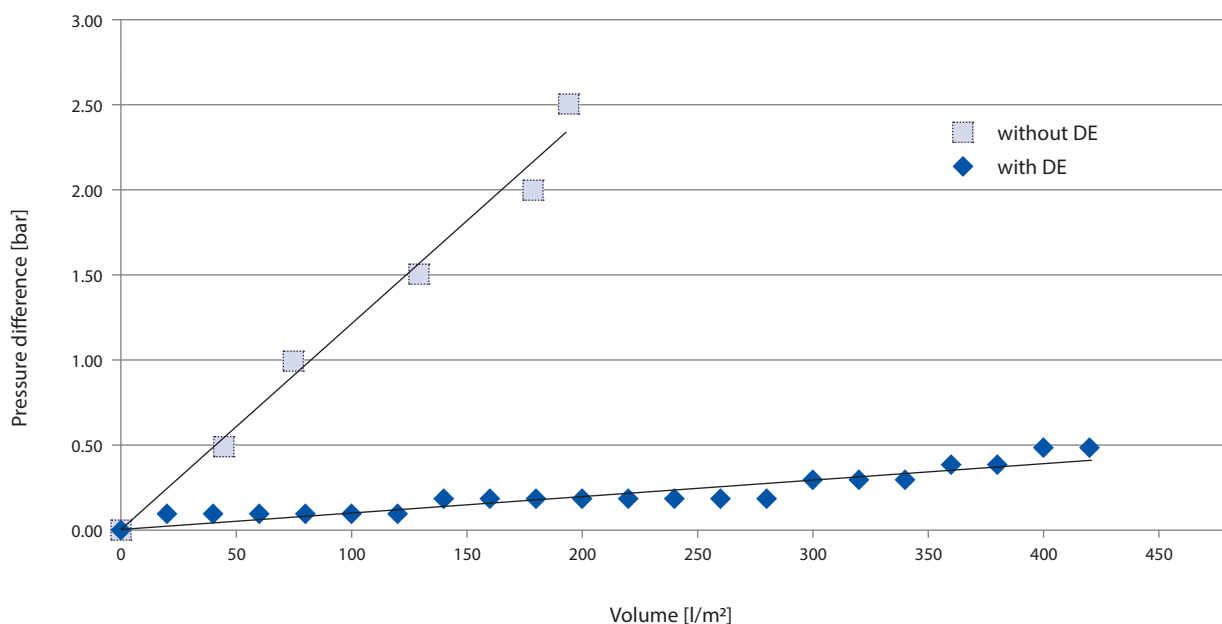

Figure 2: clogging curve; example of filtration time during harvest with and without DE
Why is the use of filter aid necessary? Standard depth filters can no longer handle the higher and higher cell titers ($>10^8$ cells/ml) in fermentation broths. By using a filter aid such as diatomaceous earth (e.g. Celpure®) the filtration volume per filter area can be increased by up to 80% (see figure 2). The filter aid is suspended in the fermentation broth or in buffer/water and then washed onto the FILTRODISC™ BIO SD modules to form a filter cake. When doing this, the filter sheet (e.g. PURAFIX® CH 09P) in the modules, themselves function not as filters, but merely as a support for the filter cake, which is where the actual slurry removal takes place.
1. *Extension of filtration volume per area:* Due to the formation of the filter cake the filtration volume per filter area can be extended greatly, in some cases up to 80% (figure 2).